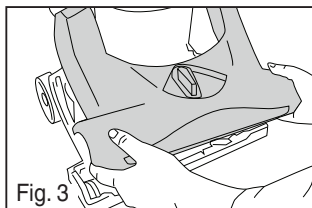

Fig. 3
- 7) Replace brush roll cover (Fig. 3).